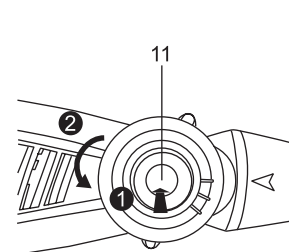

Fig. 25
1. Place the product on a stable, level surface with the angle adjusting button (11) facing upward. We recommend laying a non-flammable sheet under the product.
2. Press the angle adjusting button (11), meanwhile rotate the working head anticlockwise to the required working angle. Please note to align the mark <math>\triangleleft</math> with the scale around the angle adjusting button (11); and please make sure you hear a “click” when do this adjustment or the angle adjusting button (11) bounces back, or else the working head is not locked well. (Fig. 25,26)